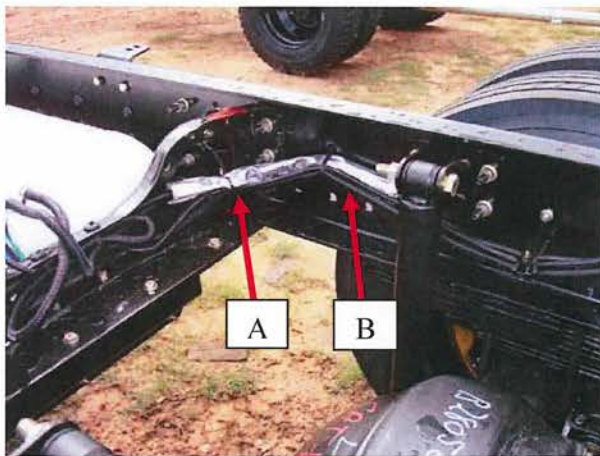

Figure 5
10. Be sure heat reflective sleeve on the fuel lines is centered above the exhaust pipe (pipe is not shown in figure 5 at top of page 4).
11. Secure fuel lines and wiring harness separately with cable ties (Figures 5, 6, 7).
12. At point "A" of figure 5 and 6, use Dual Clamp Tie (00024043) to secure and separate fuel lines and wiring.
13. At point "B" of figure 5 and 7, use Dual Clamp Tie (00024043) to secure and separate fuel lines and wiring. Use Buttonhead Cable Tie (00024076) to secure fuel lines to frame rail (Use existing hole in frame rail).